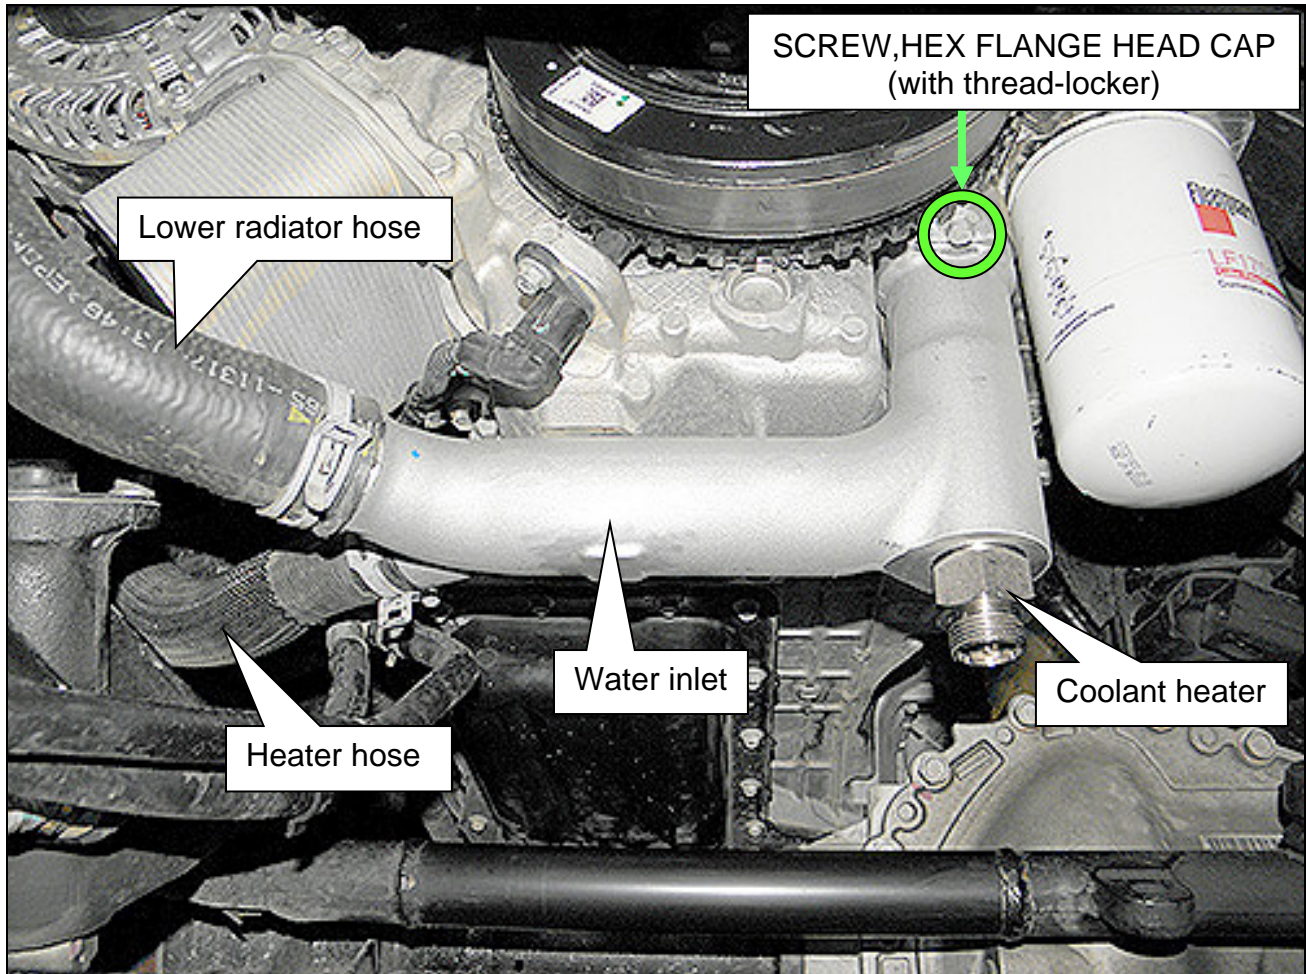

Figure 2
5. Install new water inlet in the reverse order that the original was removed (Figure 2).
- The bolt with the thread-locker (SCREW,HEX FLANGE HEAD CAP) must be used in the location shown in Figure 2.
6. Install a new coolant heater into the bottom of the water inlet (Figure 2).